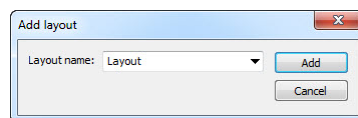

Figure 8 – Add layout dialog
2. Enter new layout name in the **Add layout** dialog (see Figure 8), which will be displayed.